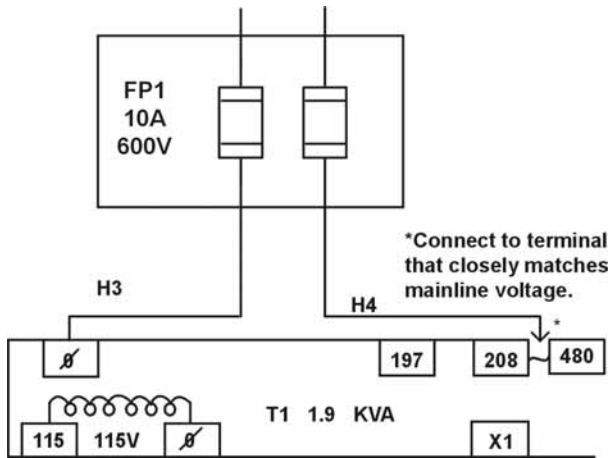

Figure 2-8
1. Verify the wires from the FP1 fuses are connected to the proper Primary taps on the controller transformer. This tap setting should be the same as the 3 phase voltage at the disconnect. [See Figure 2-8.]